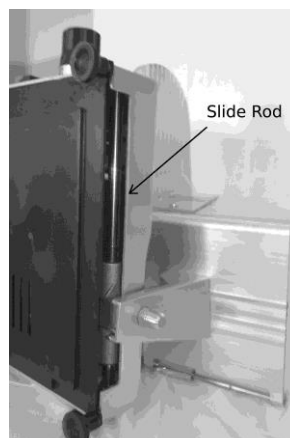

Figure 14
3. Put several drops of oil on the round slide rod (See Fig. 14) towards the top of the rod.